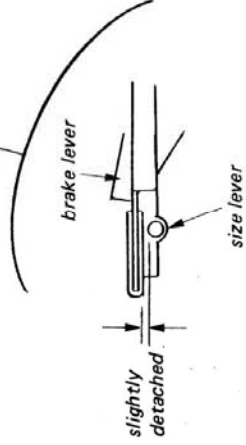

Fig. 3
3. At this time, adjust the adjustment screw so that the brake lever is slightly detached from the size lever. See Fig. 3.